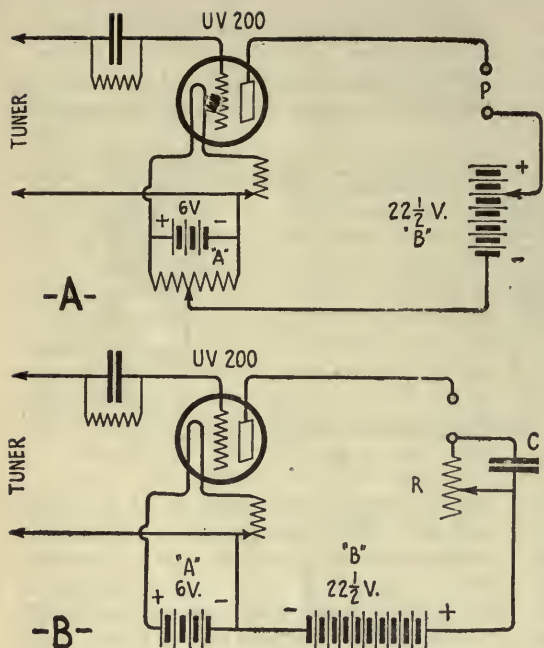

FIG. 7
It is therefore necessary to accurately control the plate voltage just below the point of excessive ionization, where the signal intensity is high. The two methods for doing this are shown in Fig. 7, where A is the potentiometer across the A battery. The middle movable arm connects with the negative terminal of the B battery. When the arm is moved toward the positive terminal of the A battery (1), the  $22\frac{1}{2}$  volts of the B battery are placed in series with the cells of the A battery; if this is of the six-volt storage-battery type, when the lever has reached (1) the total B-battery voltage will be  $6 + 22\frac{1}{2}$  volts or  $28\frac{1}{2}$  volts. For values lower than  $22\frac{1}{2}$  volts a tapped B battery must be used, and the plate connected to the lowest tap. Then the range will be from  $16\frac{1}{2}$  to  $22\frac{1}{2}$  volts.